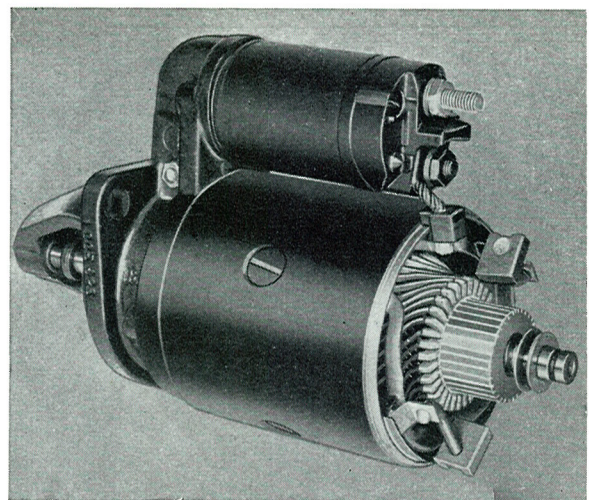

Fig. 3-35. Starter motor with brush bridge removed
N.B. The washers are as shown in Fig. 3-35.
8. Fit the washers on the rotor shaft as shown in Fig. 3-35.